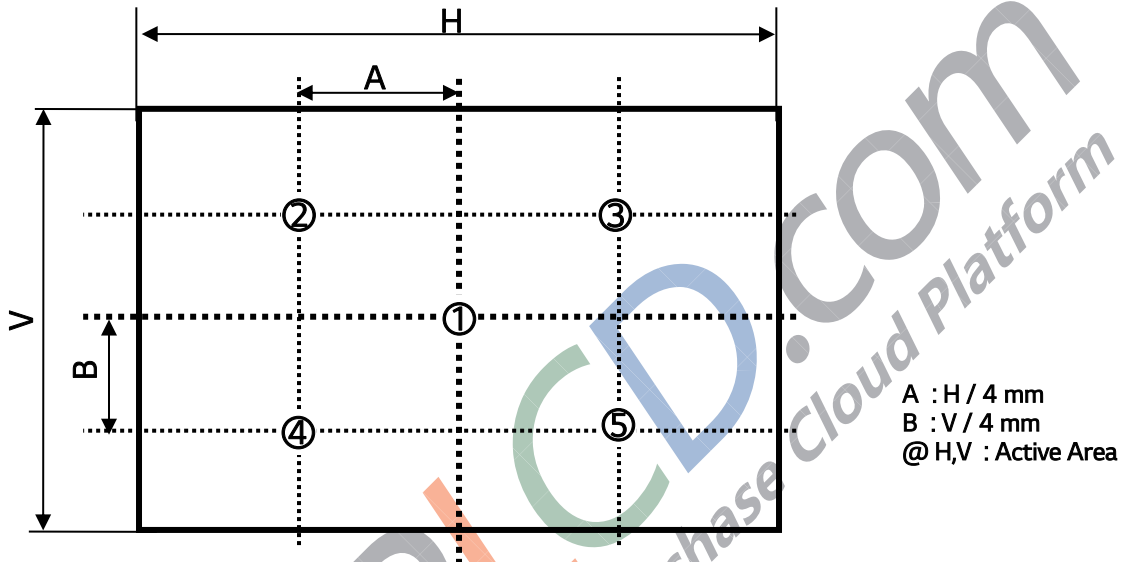

FIG. 2 5 Points for Luminance Measure
n = the Position number(1, 2, 3, 4, 5). For more information, see FIG 2.
2. Surface luminance are determined after the unit has been 'ON' and 60min after lighting the backlight in a dark environment at 25±2°C. Surface luminance is the luminance value at center 1-point across the LCD surface 50cm from the surface with all pixels displaying white. For more information see the FIG. 2.